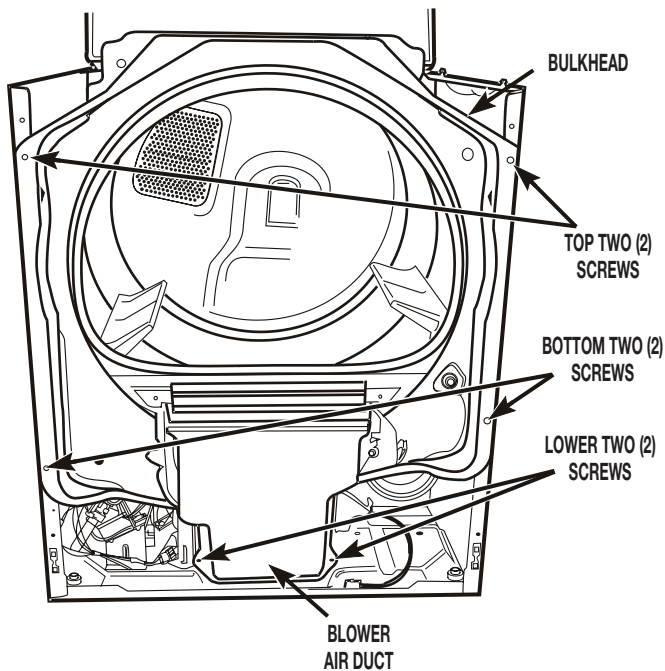

FIGURE 5
- Loosen the top two (2) hex-head screws and remove the bottom two (2) hex-head screws from the front bulkhead. Remove the lower two (2) screws from the blower air duct. Gently remove the bulkhead and blower air duct from the front of the dryer. See Figure 5.